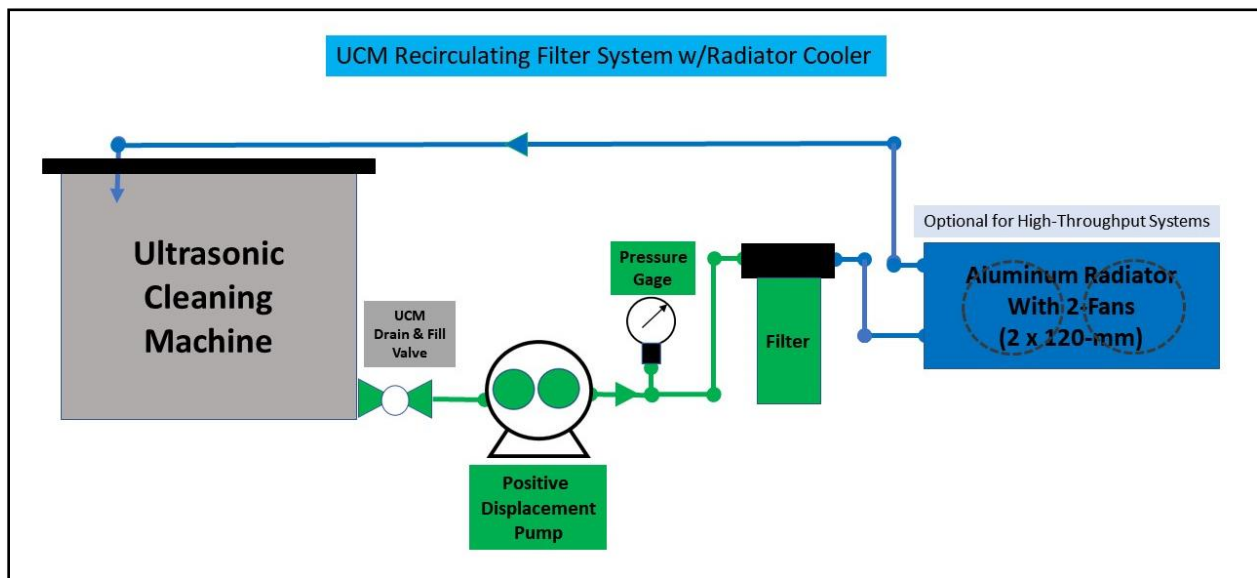
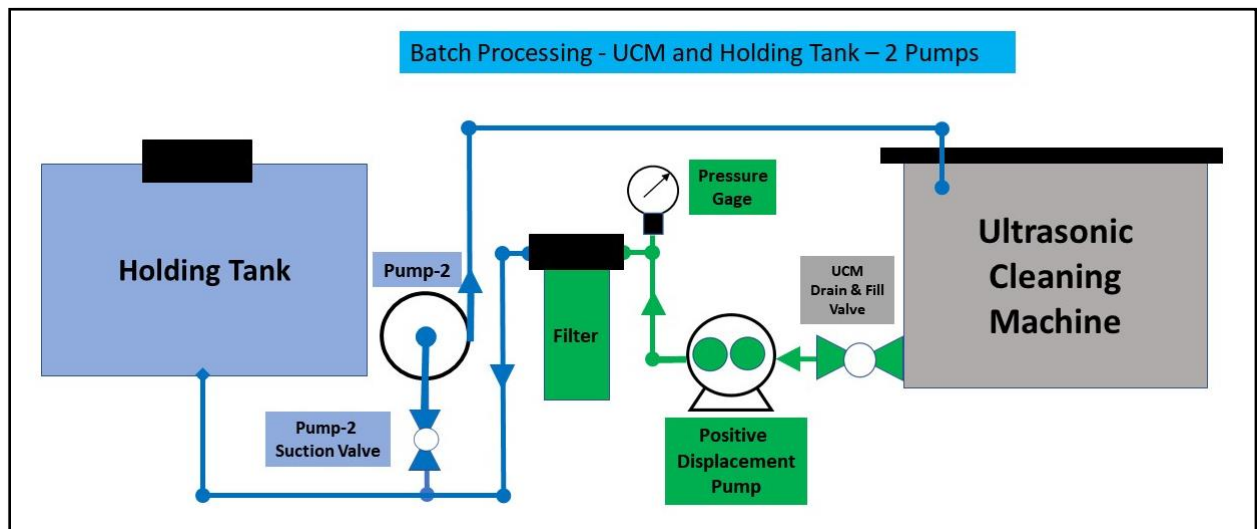
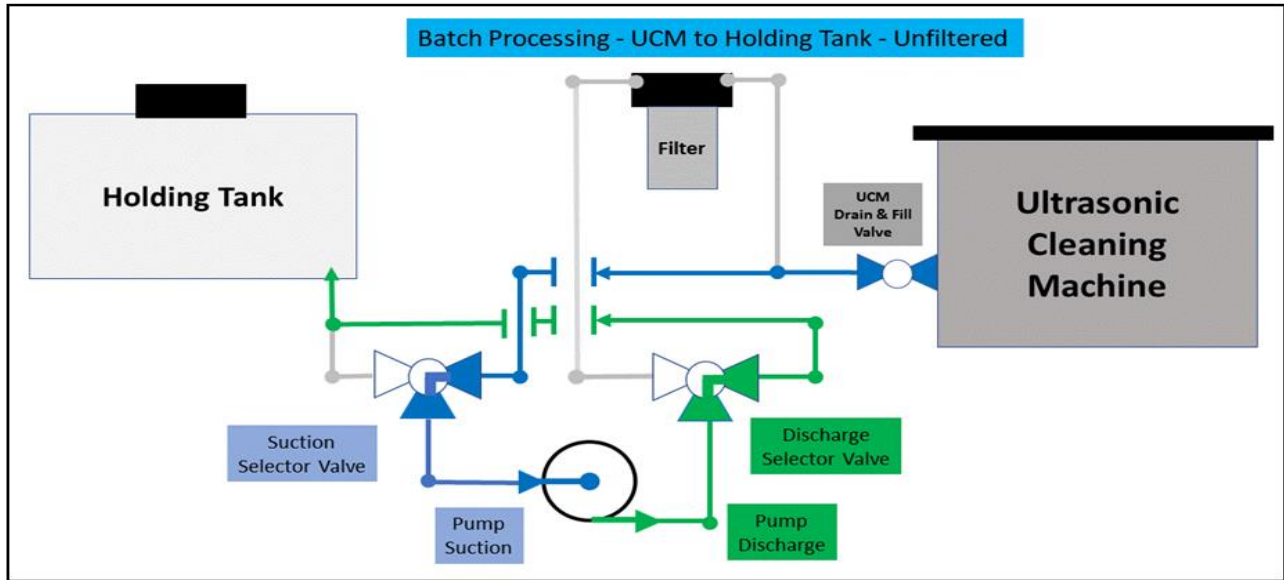
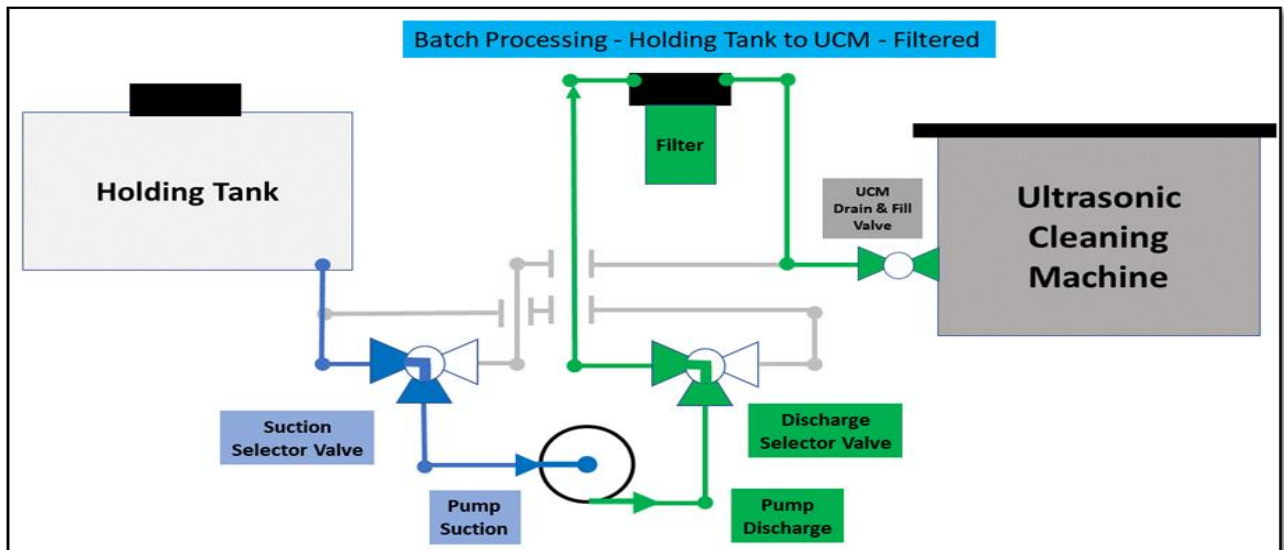

Figure 58 - UCM Recirculating Filter System w/Radiator Cooler
Figure 59 - Batch Processing UCM and Holding Tank - 2 Pumps
Figure 60 - Batch Processing - UCM to Holding Tank - Unfiltered
Figure 61 - Batch Processing - Holding Tank to UCM - Filtered
XIV.15 **Pumped Filtration:** Pumped filtration is performed either by single tank recirculation as illustrated **Figure 57** and **Figure 58** which is the most common method, or tank-to-tank batch processing illustrated **Figure 59**, **Figure 60**, and **Figure 61**. There are advantages and disadvantages to each. **Table XXIII** shows a comparison between the two-types of filtration systems assuming a UCM of 2-gallons capacity. Generally, recirculation is simpler and cheaper; while batch is faster, more efficient, but more complicated and expensive.
XIV.15.1 **Figure 58** illustrates a recirculating filter system. The optional aluminum radiator is used for applications that have a high throughput. The radiator removes the heat generated by the ultrasonics.
- XIV.15.5 Batch filtration is 100% efficient but requires a second tank. Batch filtration can use any size pump. However, pump selection can affect risk of foaming. During pump-down from the ultrasonic tank to the holding tank, or during pump-down of the holding tank to the ultrasonic tank, at the end of the evolution the pump suction will be very low causing centrifugal pumps to cavitate possibly foam. On start-up as the centrifugal pump primes again cavitation and foam may develop. Positive displacement pumps are generally more forgiving and some can run dry without damage and self-prime. **Figure 59** illustrates the easiest way to implement a batch filtration process using two (2) pumps.
- XIV.15.5.b Batch filtration with two 3-way valves and one pump as illustrated in **Figure 60** and **Figure 61** can transfer water from the UCM to the batch tank and then transfer water from the batch tank back to the UCM. **The plumbing and valve sourcing can get complicated and there is little cost saving from using a two-pump arrangement.** The water can be filtered to or from the batch tank depending on how it is plumbed - **Figure 61** shows the arrangement for filtering from the holding tank.
XIV.22.2 Alternately, since the outlet pressure is the UCM tank that is essentially at 0 psig (or slightly higher if a radiator is installed), a filter inlet pressure gauge (as indicated **Figure 58**) is a reasonable indication of filter differential pressure. In this case, a standard 0-60 psig, Stainless Steel 1/8" NPT 1.5" face dial, glycerin filled pressure gauge with 1/8" to 3/8" NPT adapter is recommended. A stainless-steel tee pipe fitting, 3/8" x 3/8" x 3/8" NPT female pipe fitting can then be used (with 3/8" NPT plastic hose bards) to install in the tubing. A glycerin filled pressure gauge is recommended to damp the pulsations normal with positive displacement pumps.
XIV.24 UCM Pump-Filter Parts List: Table XXIV provides three cost-options for installing a DIY recirculating UCM pump-filter system (see **Figure 58**) w/o the radiator (see **paragraph XIV.15.2**) or inlet pump strainer (see **paragraph XIV.16**). Prices are estimates at the date of the last edition of this book. Specific items can be located by copying the part description and searching the internet. Many of the small parts are available from Amazon™. The pumps and filter elements are generally available elsewhere.